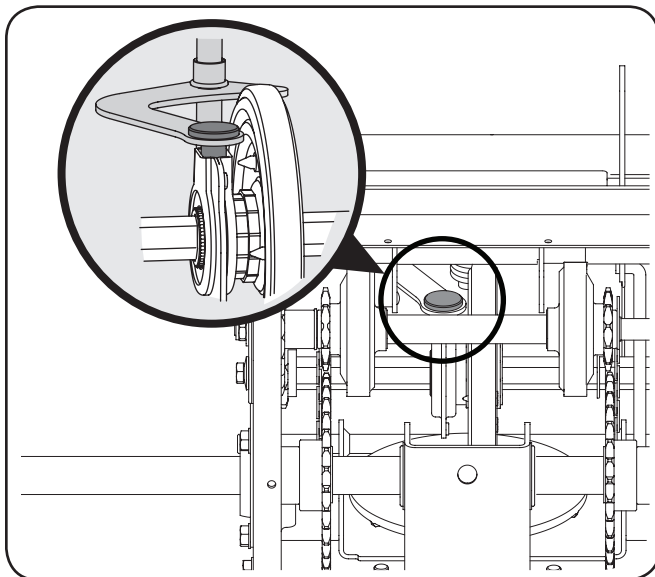

Figure 8-12
9. Reposition the friction wheel assembly in the snow thrower frame. Insert the pin from the shift arm assembly into the friction wheel assembly and hold assembly in position. Refer to Fig. 8-12.